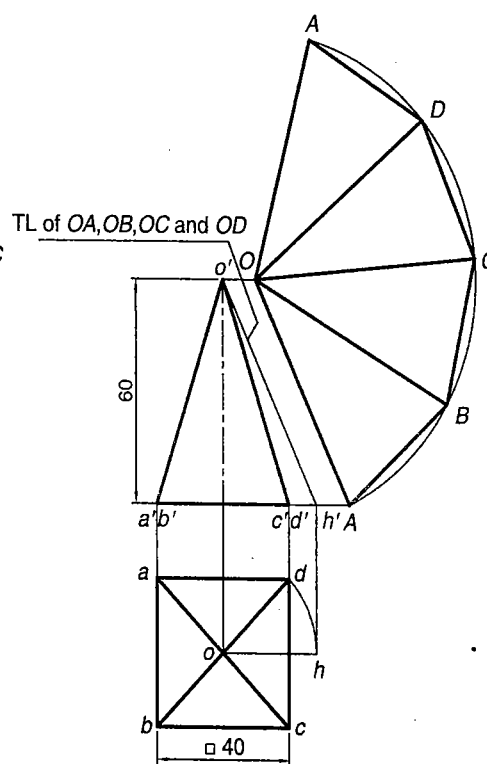

Fig. 13.9(a)
**CONSTRUCTION** When all the sides of the base are equally inclined to the V.P. Figure 13.9(a)